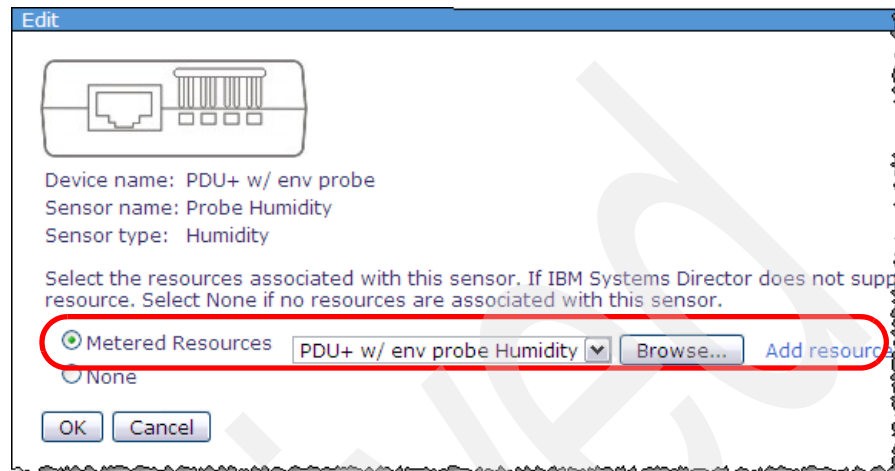

Figure 8-47 Configuring probe humidity sensor
3. Select **Metered Resources** and click **Add resource** to create the logical module (in this example *PDU+ w/ env probe Humidity*), then click **OK**, as shown in Figure 8-47.